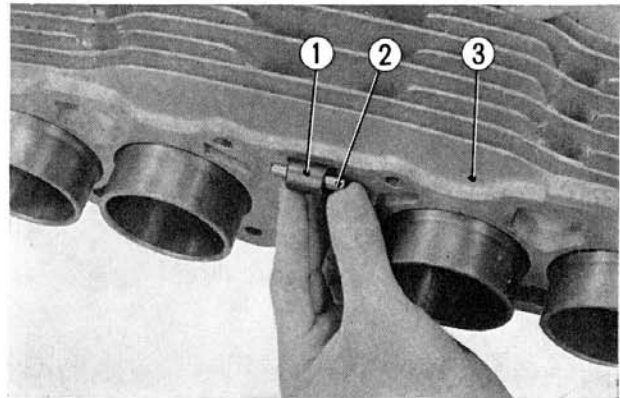

Fig. 3-29 ① Cam chain guide ③ Cylinder
12. Remove the cam chain guide pin from the bottom of the cylinder and remove the cam chain guide from the cylinder. (Fig. 3-29)